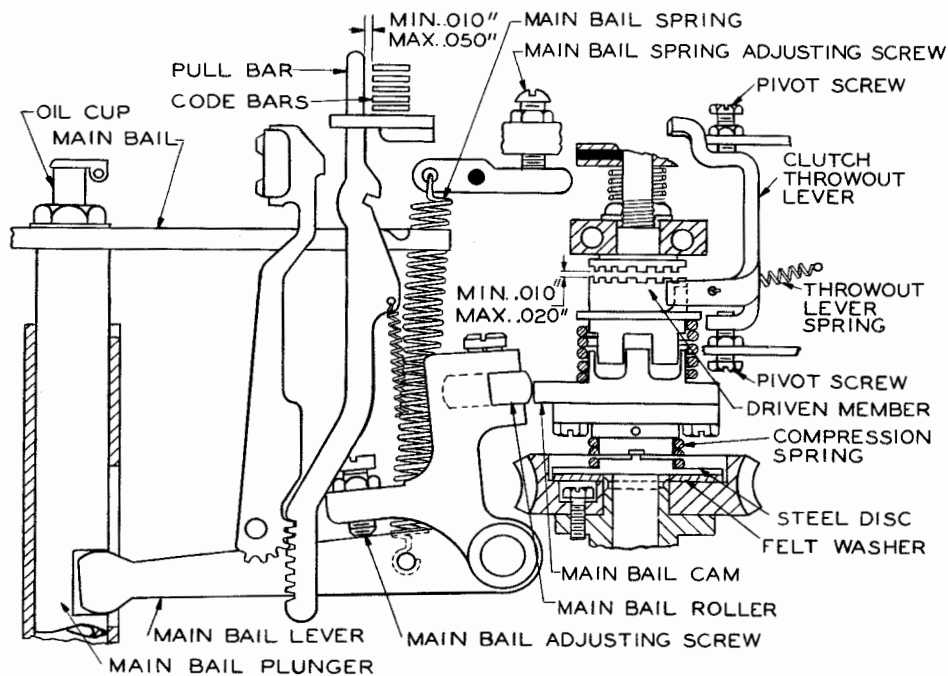

Figure 10
2.02 Main-shaft Clutch Throw-out Lever: With the motor operating, open and close the signal line and then stop the motor. There shall be minimum 0.010, maximum 0.020-inch clearance between the teeth of the two clutch members. (See Figure 10.)
Blank and LTRS combinations are set up in turn, the main-bail roller is on the high part of the main-bail cam and the play in the main bail and the pullbars is taken up to make the clearance a minimum. (See Figure 10.)